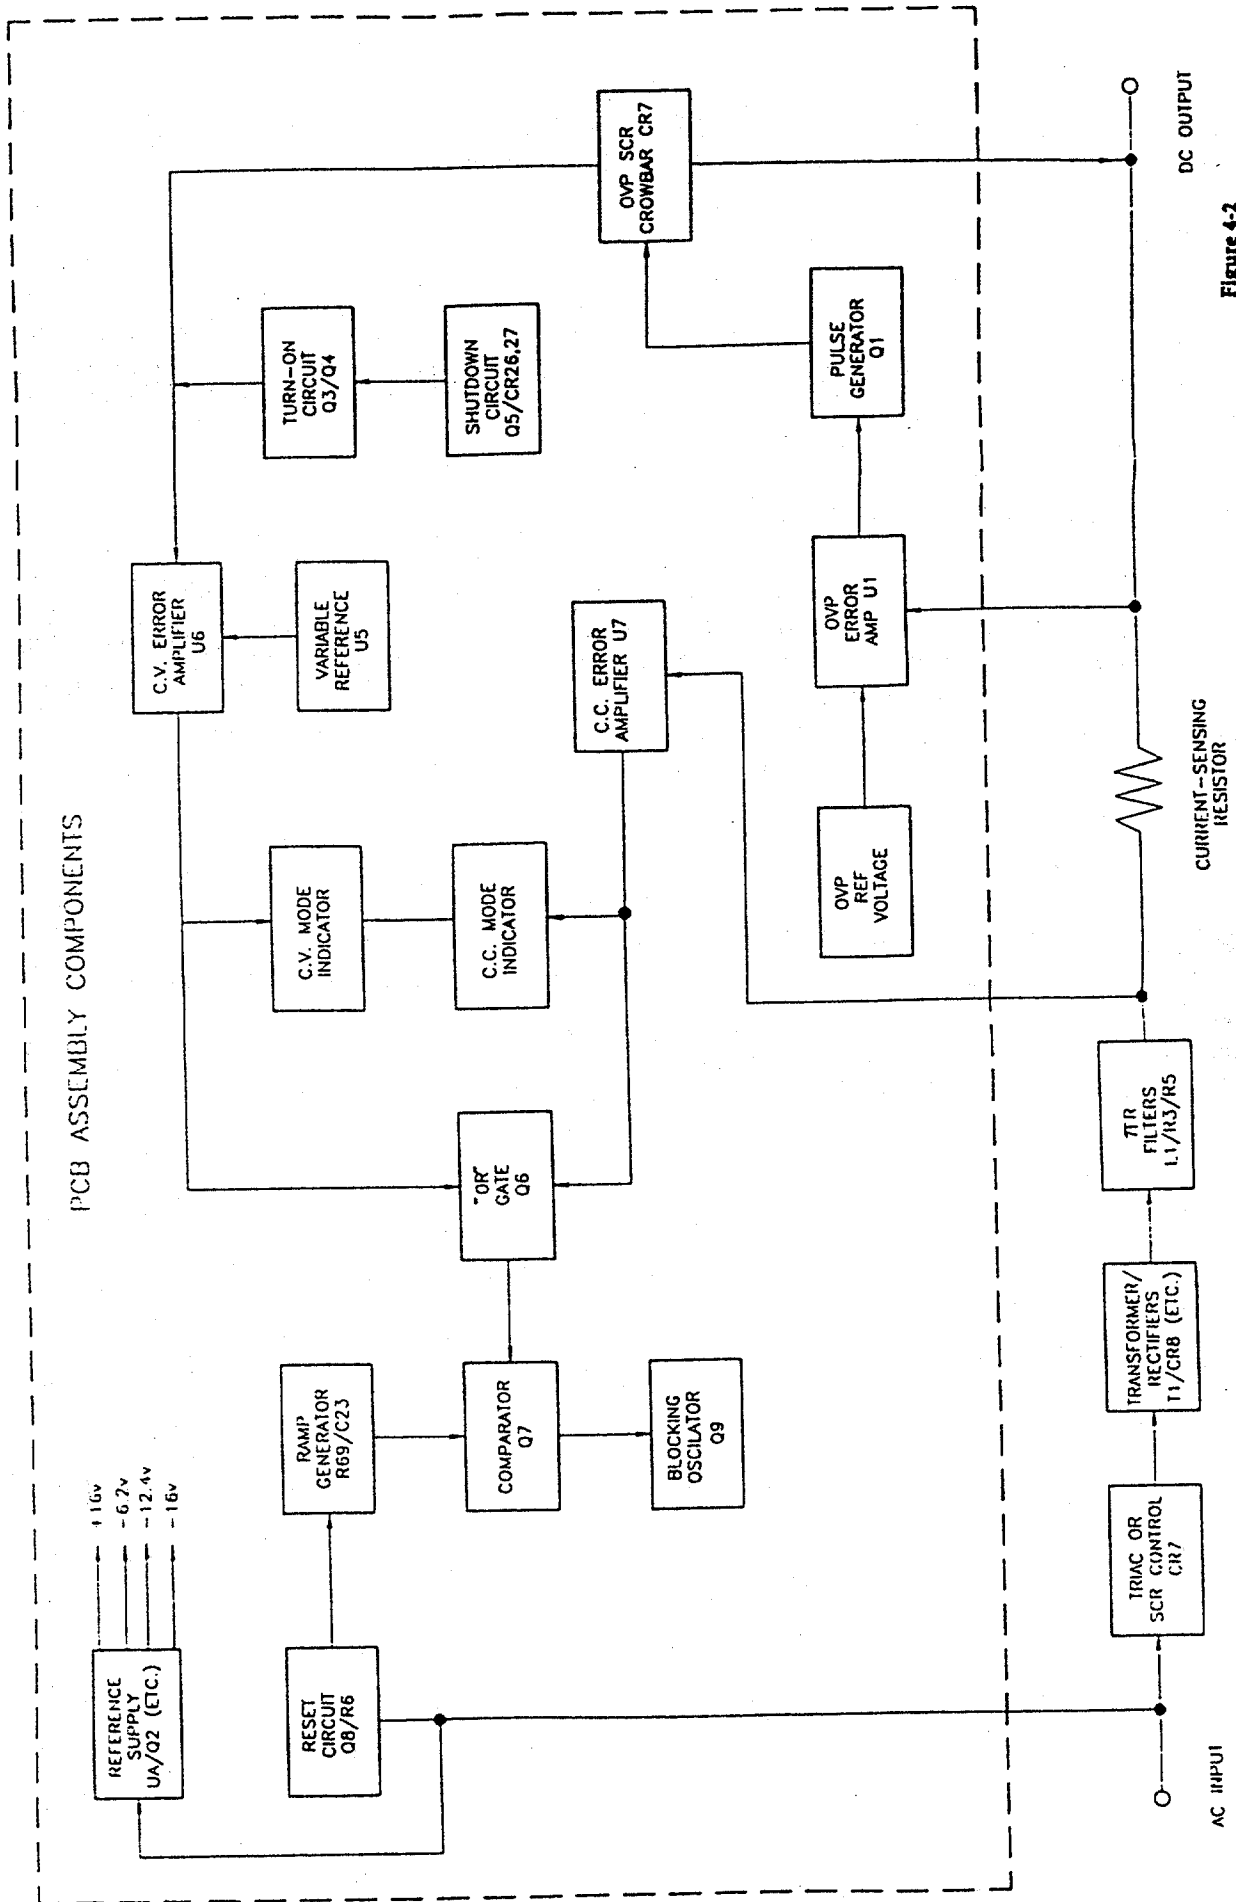

Figure 4-2
4.3 BLOCK DIAGRAM ANALYSIS (Figure 4-2)